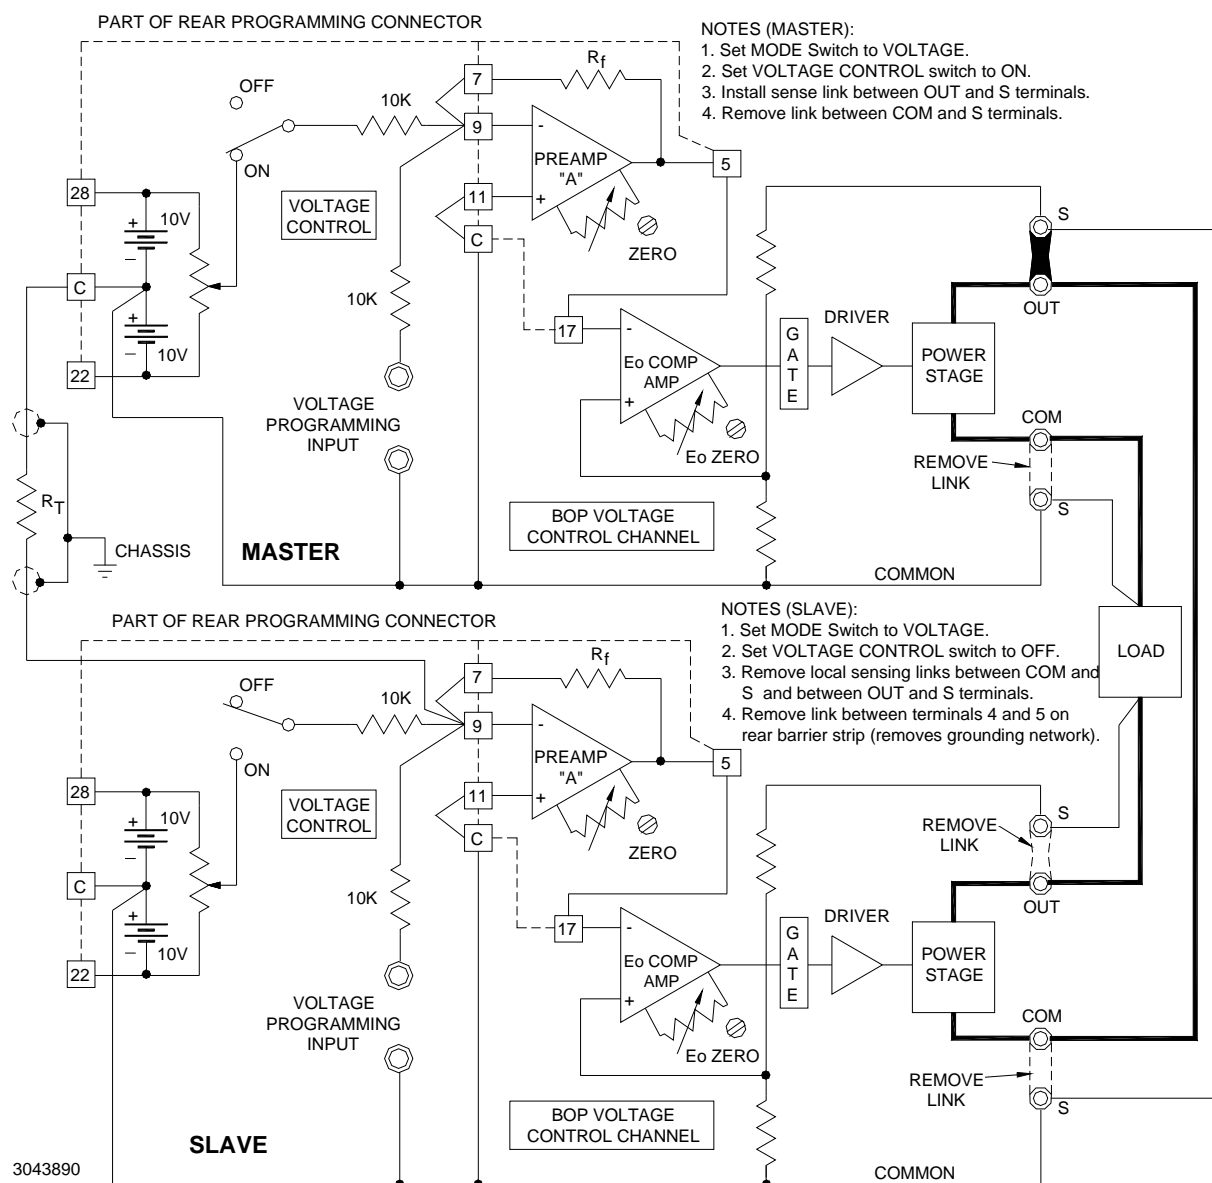

FIGURE 3-24. SERIES CONNECTION (MASTER/SLAVE) OF TWO BOP POWER SUPPLIES, WITH REMOTE ERROR SENSING AT THE COMMON LOAD
Three BOP power supplies can be connected in series to increase output voltage. One series-connection limitation is the isolation limit of the BOP itself (500V); contact Kepco if more than three units in series are required. The slave units are set to always be in voltage mode, adding to the output voltage of the master by repeating the master's voltage, while the master can operate in either voltage mode or current mode as needed. Figure 3-24 shows a master/slave connection of two BOP power supplies.
1. Connect the BOP supplies as shown in Figure 3-24. Set the MODE switches and the VOLTAGE CONTROL switches as directed in the set-up diagram, Figure 3-24.
To extend the concept of series connection to more than two BOP units, refer to FIG. 3-24. The Load-wire size should be rated to at least the maximum load current and load-wire pairs should be twisted or tied together to keep the inductance and EMI as low as possible. For remote sensing, use #22 AWG twisted pair wires.
2. Turn BOP's on and begin operation. The system as shown in Figure 3-24 operates in Voltage Mode, since the Master MODE switch is in VOLTAGE position. For operation in Current Mode, transfer the Master MODE switch to CURRENT.